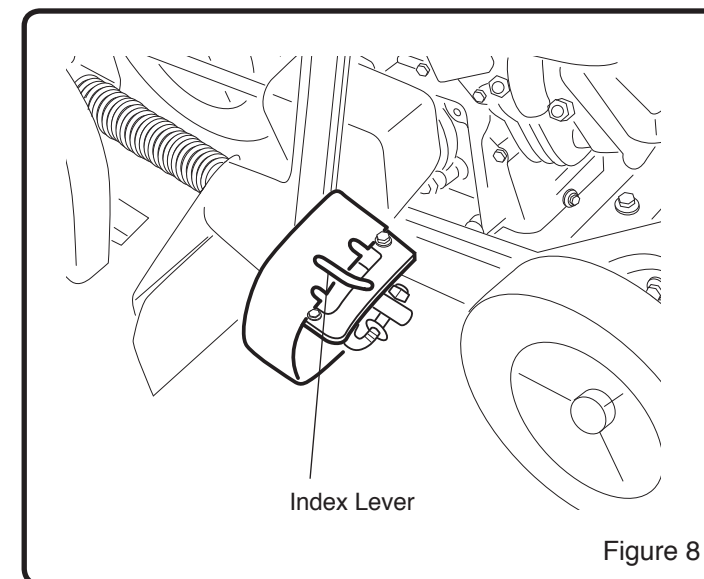

Figure 8
3. Disengage the index lever (See Figure 8). Move the index lever to the desired notch (15, 0 or -15 degrees).